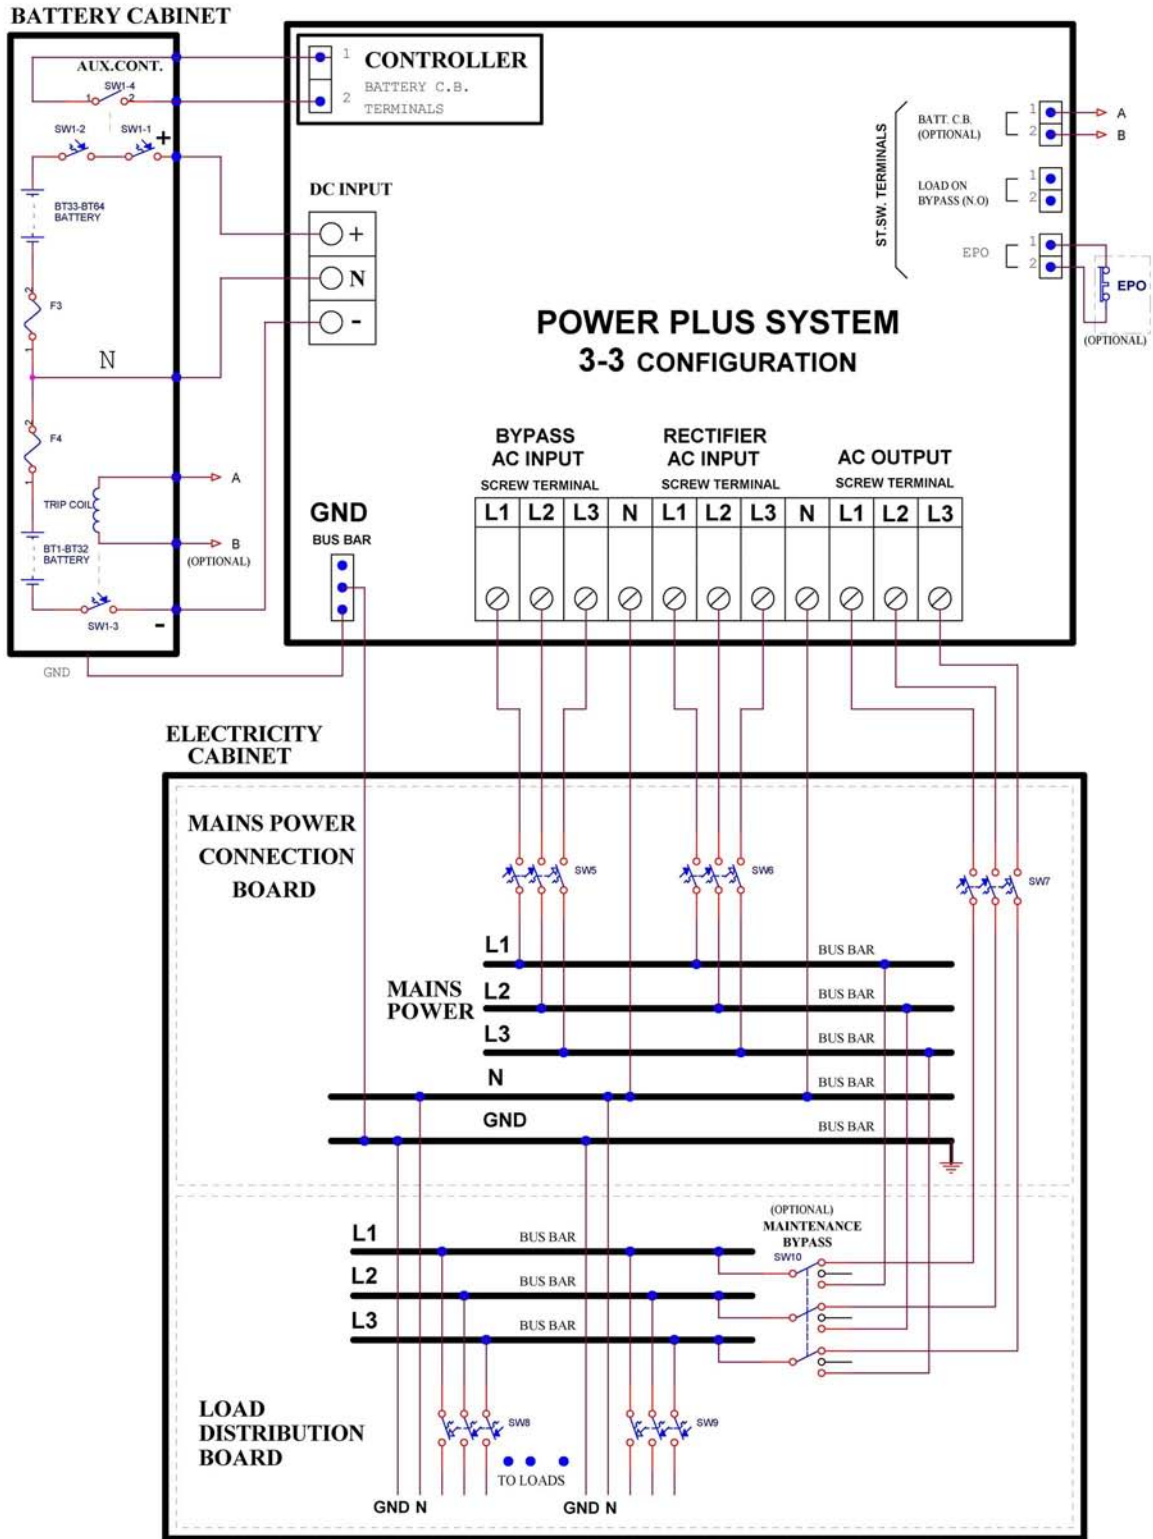
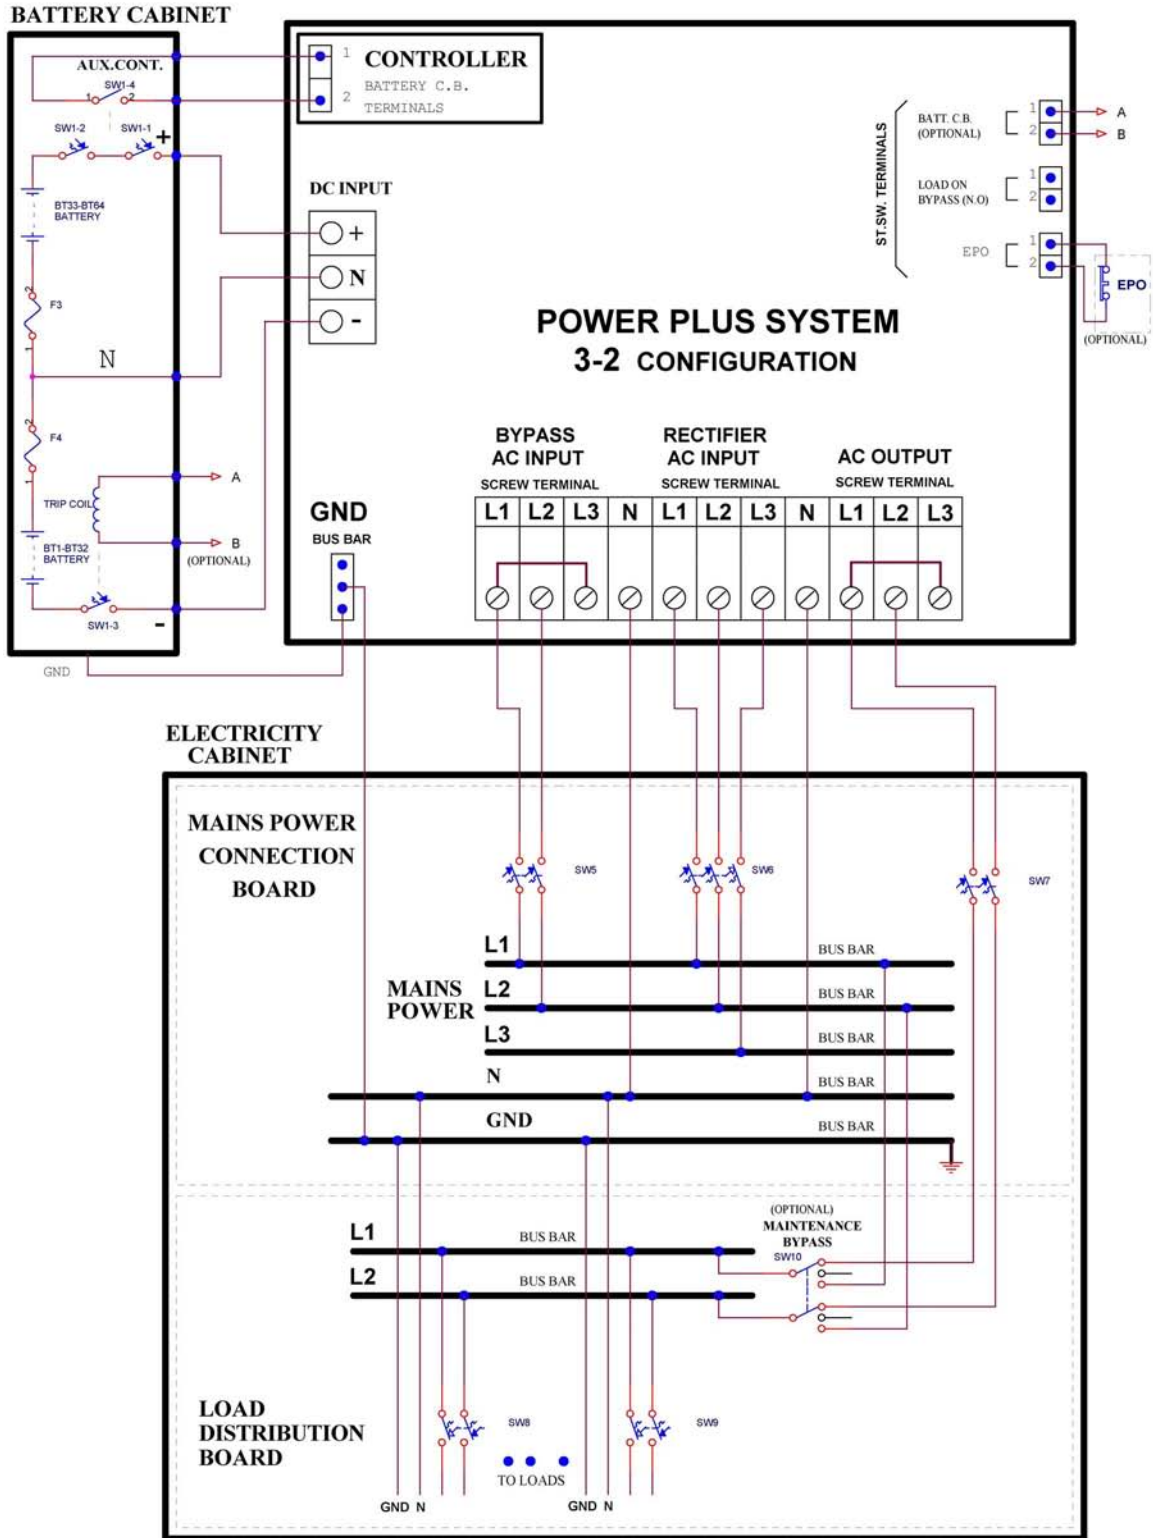
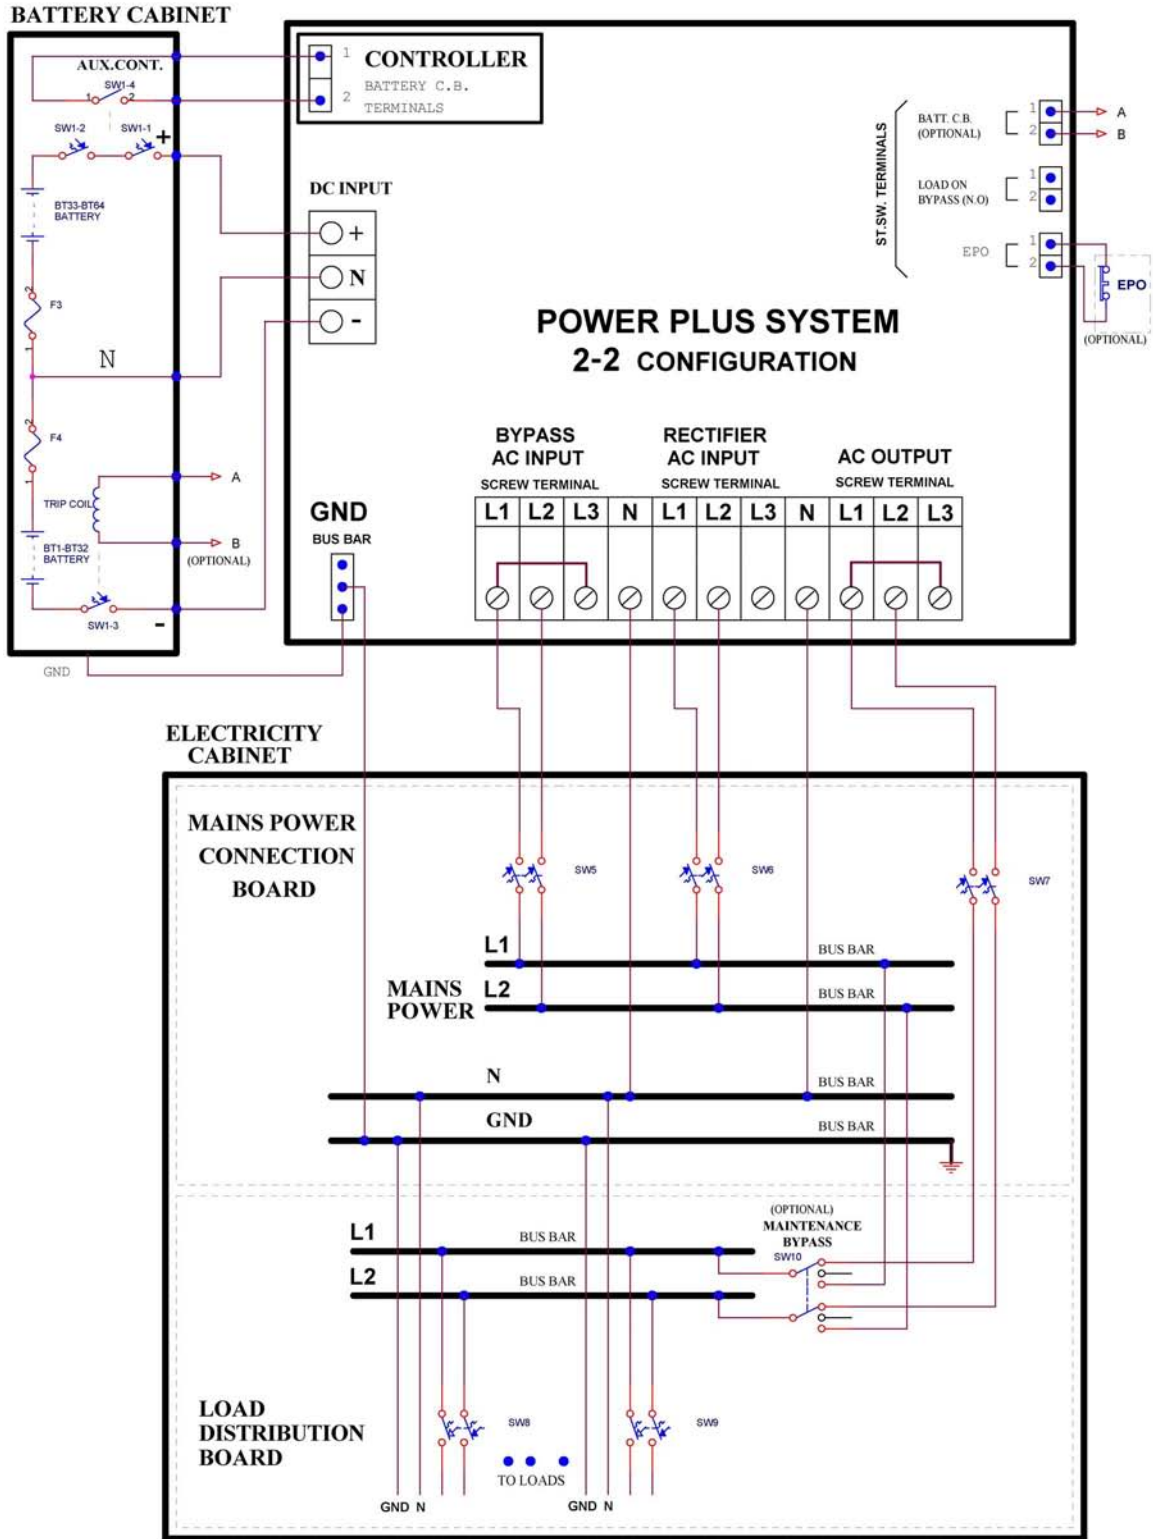

Figure 7: Connection diagram for 3-3 configuration
Figure 8: Connection diagram for 3-2 configuration
Figure 9: Connection diagram for 2-2 configuration
Figure 7 (3-3 configuration), Figure 8 (3-2 configuration), and Figure 9 (2-2 configuration) below illustrate the cabling of the POWER+ system to the mains electricity cabinet.
2.	Consult the appropriate connection diagram, depending on the phase configuration of the UPS: <ul style="list-style-type: none"> • For 3-3 configuration, see Figure 7 on page 25. • For 3-2 configuration, see Figure 8 on page 27. • For 2-2 configuration, see Figure 9 on page 29. Connect ground lines to busses according to markings as shown in the connection diagram. Verify secure connections.